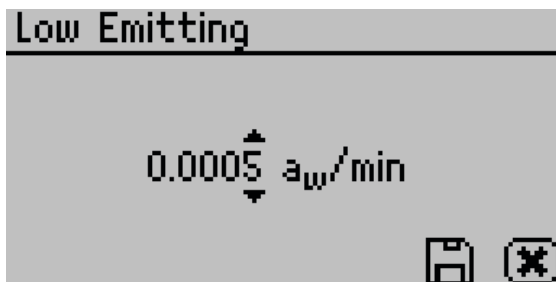

Figure 42 Low-Emitting mode screen
- ♦ Low-Emitting mode gives the option of speeding up test time by adjusting the equilibrium trigger value (Figure 42).